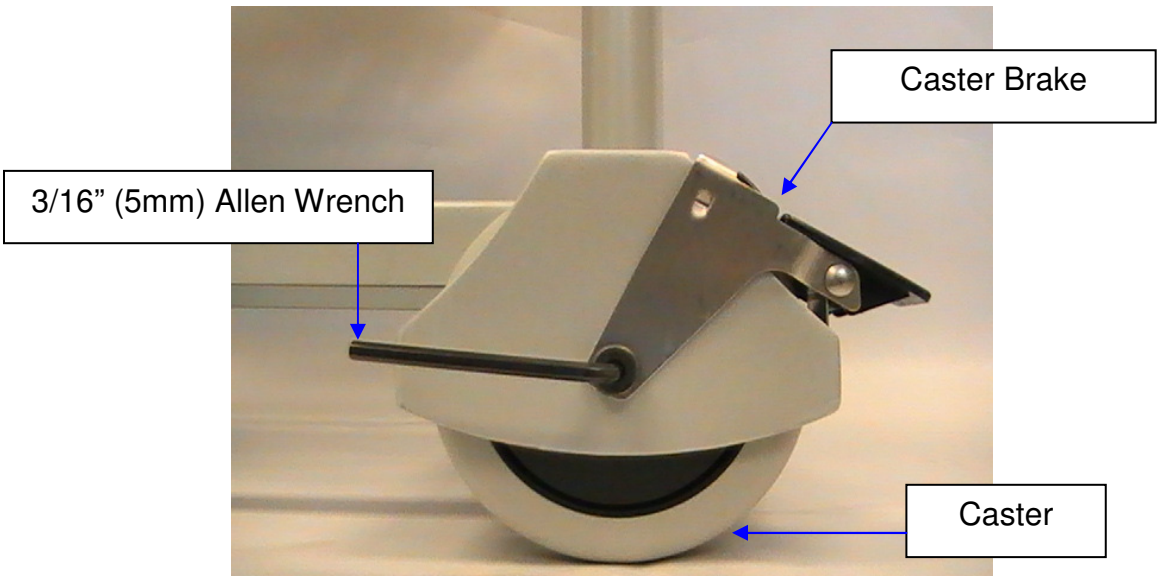

Figure 3
3. Thread the (2) leveling feet into the underside of the chair scale assembly. Each foot should be completely hand tightened.
5. Position the caster and caster brake with each bolt hole. Place the bolt through each bolt hole and tighten using the 3/16" (5mm) Allen wrench (see Figure 3).